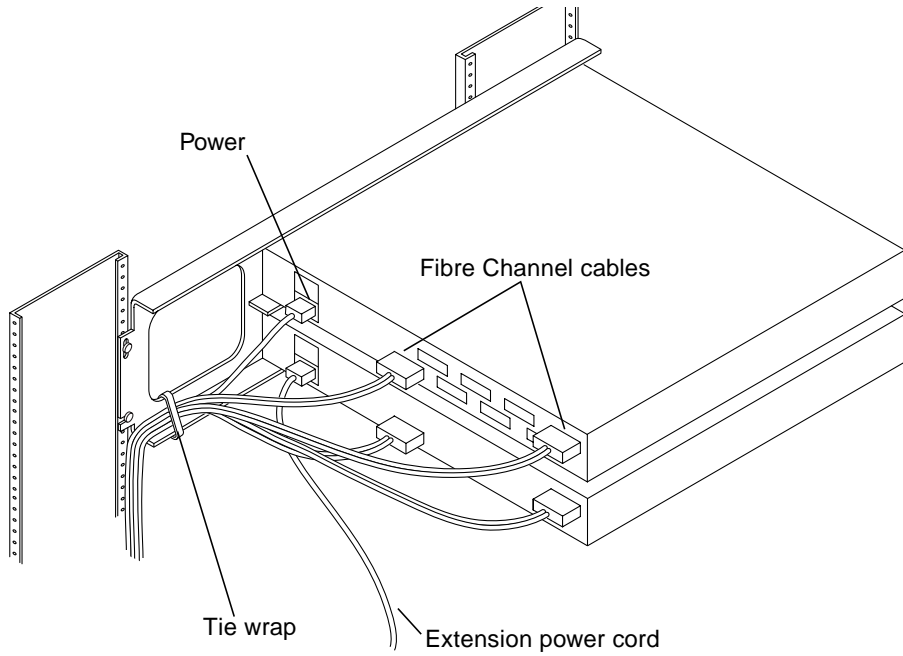
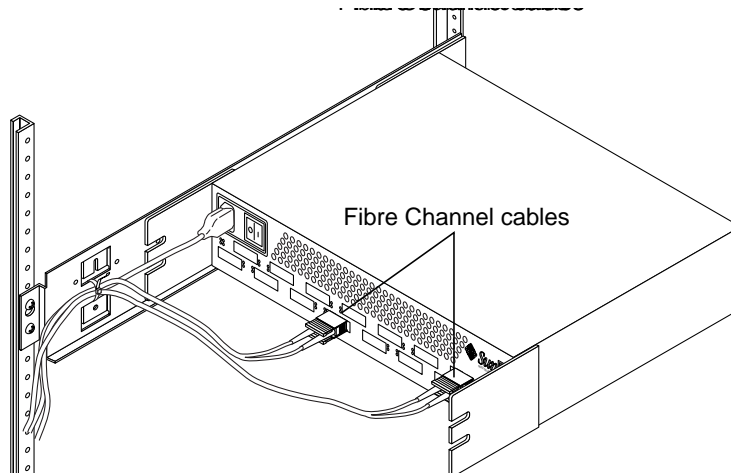

FIGURE 3-12 Example of Cable Routing for the 8-port Switch
FIGURE 3-13 Example of Cable Routing for the 16-port Switch
2. Unplug the power cord from both fan trays and the J12 connections on both sequencers. See FIGURE 3-12 for the J12 location.
4. Disconnect the power cord from J8 on both sequencers. See FIGURE 3-12 for J8 location.
5. Use a tie wrap to secure the Fibre Channel cables, as shown in FIGURE 3-12 and FIGURE 3-13.